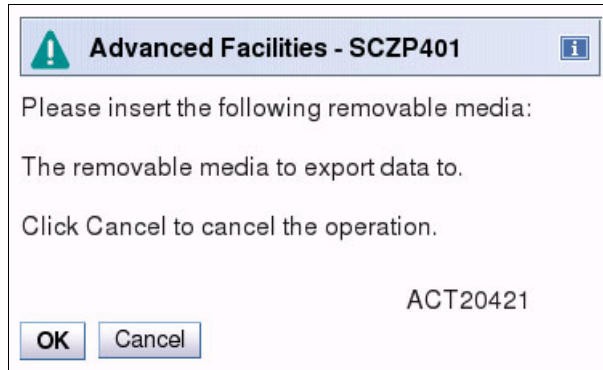

Figure 14-77 ACT20421 window display
7. The HMC displays the ACT20421 window (Figure 14-77). Click **OK**.